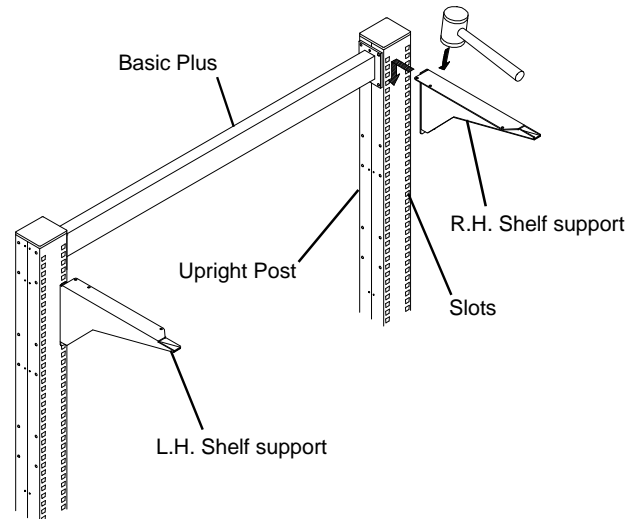

Figure 1
1. Determine the location of the **Shelf**. Position the Shelf Supports as shown in **Figure 1**. Insert the hooks on the back of the supports into the trapezoid shaped slots in the upright posts and push down.